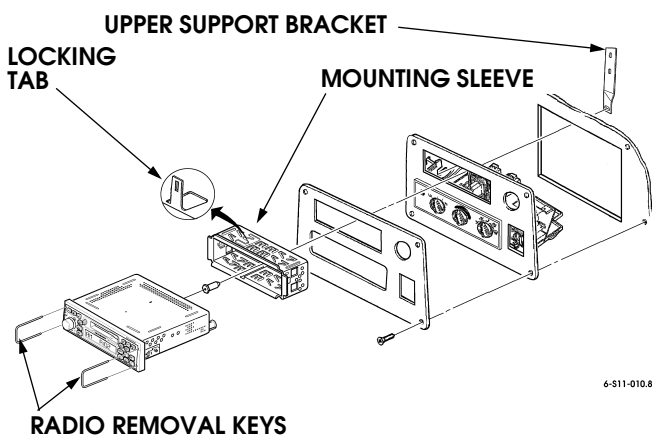

Figure 12-136: Radio Removal.
1. Insert a radio removal key in the holes in each side of the face of the radio to disengage locking clips from the mounting sleeve (Figure 12-136).